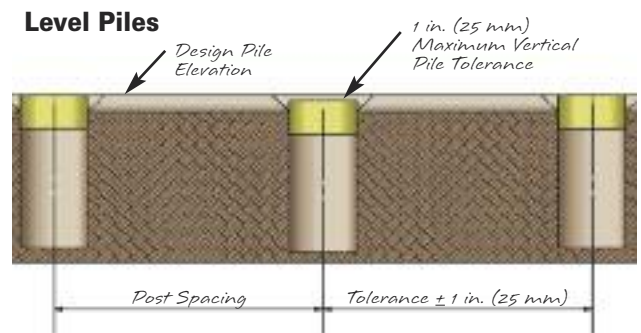

Figure 8: Pile Construction Tolerances
- When drilling the holes keep in mind that hole positioning is critical. A maximum allowable deviation of  $\pm 1$  in. (25 mm) for the pile cap is allowed for the horizontal locations. See Figure 8.
- Place the concrete form in the hole, making sure that the center of the concrete form is in alignment with the centerline of the AB Fence to  $\pm 1$  in. (25 mm), see *Figure 8*.
- During the pour of each pile, ensure that the concrete form is braced to maintain the correct elevation and horizontal location. Double check with laser and hand levels to maintain tolerance; minor adjustments will have to be made during the pour. See *Figure 8*.